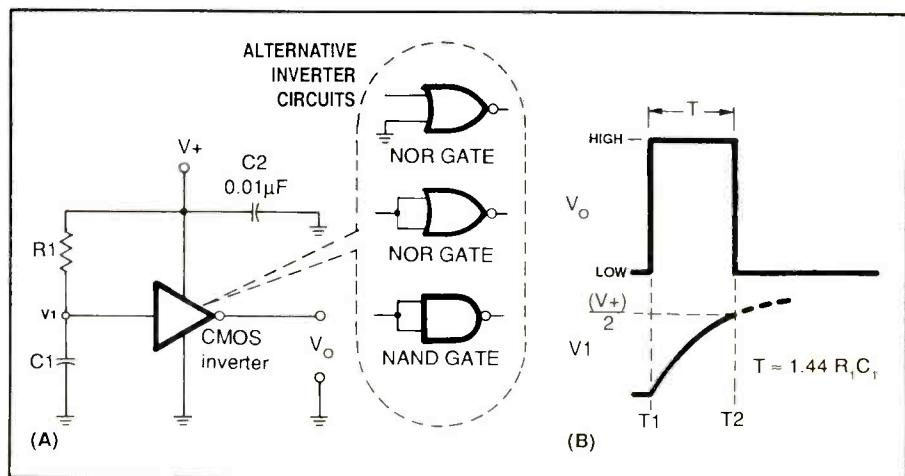
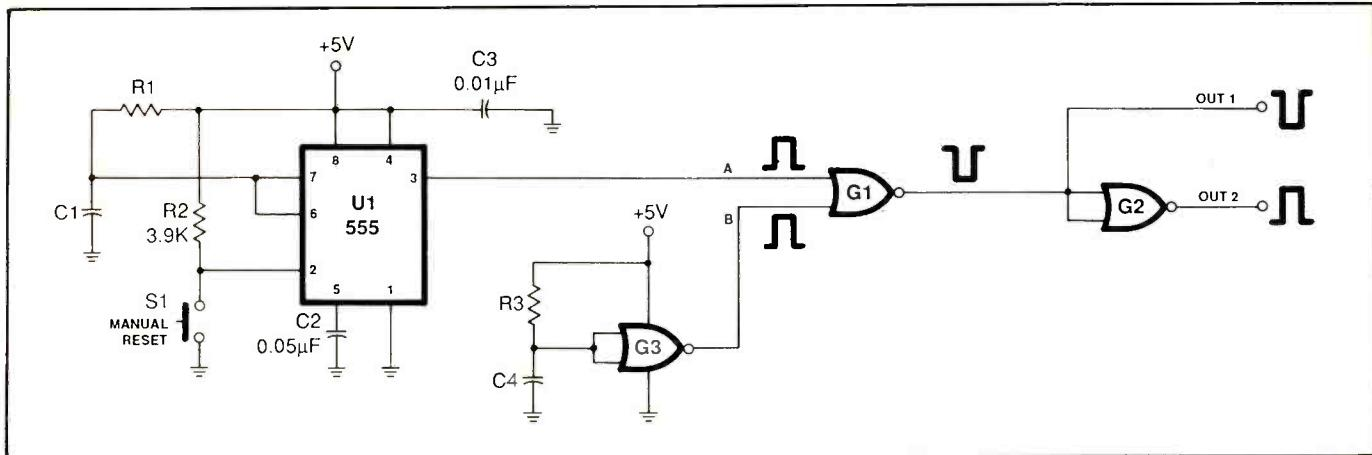
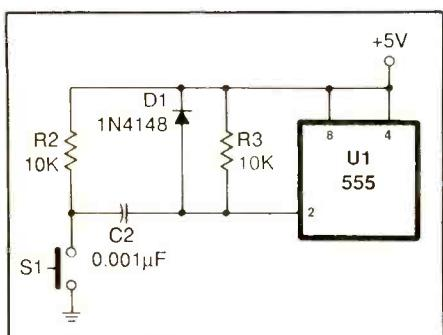
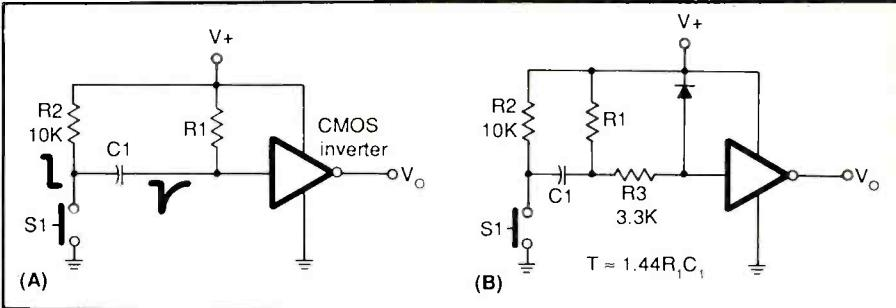

Fig. 1. (A) Power-on reset circuit; (B) timing waveform.
Fig. 3. A power-on reset and one-shot circuit for manual reset in which a NOR gate combines the two pulses into a single pulse signal.
Fig. 4. Capacitor coupling improves on the Fig. 3 circuit.
Fig. 5. (A) Simple manual reset circuit using a CMOS inverter; (B) improved circuit.
The basis for most reset circuits is either the monostable or the half-monostable multivibrator circuit. These circuits output a single pulse for each input trigger pulse. Shown in Fig. 1(A) is a circuit you can use for power-on reset applications. It's made from a CMOS digital inverter.
Several CMOS chips are inverters in their own right or contain individual inverter elements, among other functions. Inverters can also be made from NAND and NOR gates, as shown in the Fig. 1(A) inset. A NAND gate is made into an inverter by connecting together all its inputs. Similarly, a NOR gate with all its inputs connected together is also an inverter. However, the NOR gate also exhibits inverter action if one input is used as the input terminal, and all other inputs are grounded.
The Fig. 1(A) power-on reset circuit consists of a series RC network made up of R1 and C1 and connected so that capacitor voltage V1 is the input signal to the inverter. When power is initially applied, V1 is 0 and the inverter sees a low condition. Thus, as soon as the inverter "comes alive" after V₊ is applied, the input thinks it sees a low.
When the voltage rises to V₊/2, the inverter sees the condition for a high, which causes its output to snap low. The approximate time required to make this transition and, thus, the duration of the output pulse T in Fig. 3(B), is found using the formula C1R1 = 1.44T, where: T is in seconds, R1 is resistance in ohms and C1 is the capacitance in farads. For the desired 5 ms, the time constant of the R1C1 network must be:
An alternate power-on plus manual-reset circuit is shown in Fig. 3. Here, a 555 timer is used to produce the manual reset pulse, the Fig. 1(A) half-monostable circuit to produce the power-on reset pulse (gate G3) and a NOR gate to combine the two of them (G1). Another NOR gate (G2) is used as an output inverter. Because several CMOS two-input NOR gates are often found in the same IC package, the power-on reset generator shown in Fig. 3 (gate G3) and output inverter are NOR gates with their inputs strapped together.
In Fig. 3, the reset switch is connected from trigger input pin 3 of the 555 timer to ground. Pin 2 is normally held high by R_2 . This pull-up resistor will have a value of 2,700 to 27,000 ohms, depending on supply voltage (not critical). The value shown is commonly used with 5-volt dc power supplies.
One problem associated with the Fig. 3 manual-reset circuit is that the output pulse remains high as long as the switch is closed. In some cases, this is an advantage, but it's usually undesirable. A better solution is to make the circuit output once—immediately
Shown in Fig. 4 is a modified manual-reset circuit in which trigger switch S_1 is capacitor-coupled to the input of the 555 timer. Two pull-up resistors are used: R_2 keeps the switch at V_+ when S_1 is open, and R_3 is used to keep trigger input pin 3 of the 555 timer normally high. Closing S_1 grounds one end of C_2 , causing the capacitor to begin charging. Because the initial potential across C_2 is zero, the 555 trigger input momentarily sees a low condition and triggers the output pulse.
Diode D_1 in Fig. 4 is used to clip the input signal to the 555 trigger pin. Because the resistors and capacitors form a differentiator network, the output will actually be two spikes, one positive-going and the other negative-going. The unwanted spike is clipped by forward-biasing D_1 .
Other capacitor-coupled manual reset circuits are shown in Fig. 5. These
replace the 555 manual-reset circuit in Fig. 3. Circuits A and B in Fig. 5 are based on CMOS inverter circuits, as was the power-on reset circuit.
After power-up, the input of the inverter in Fig. 5(A) is high because R_1 acts as a pull-up resistor to V_+ . Hence, the output of the circuit is low. Both ends of C_1 are at the same potential close to 0 volt. Closing S_1 grounds one side of C_1 . Because capacitor voltage is near 0, the input of the CMOS inverter momentarily drops low until the charge on the capacitor reaches a certain point. A modified version that provides better triggering and reset uses a snubber resistor and diode (like the 555 version shown in Fig. 4).
the outputs of several open-collector inverters in a wired-OR configuration. Pull-up resistor R_1 serves all three inverters. Except for use of three parallel connected inverters, this circuit is similar to Fig. 5(A).